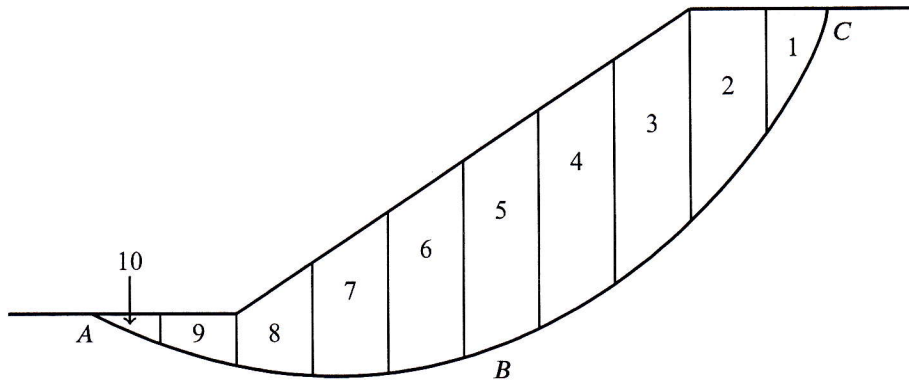

Figure 6: for QUES 9(b)
9. (a) Describe the different modes of failure of finite slope. (3)
- (b) For the slope shown in the following figure (Fig. 6), find the factor of safety (F_s) against sliding for the trial slip surface ABC using the Bishop's modified method of slices. (13 $\frac{2}{3}$)